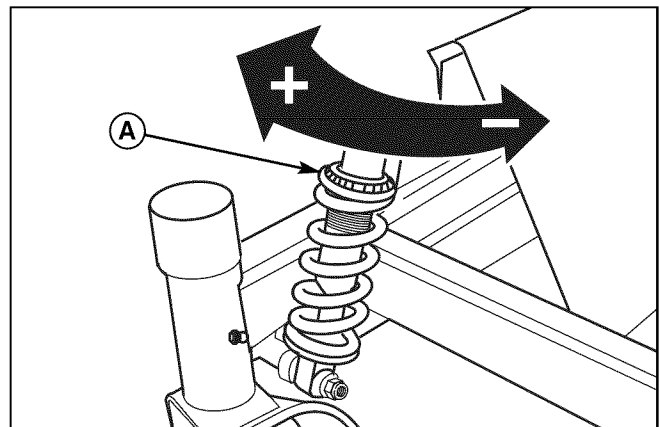

Figure 37. Suspension Adjustment
2. See Figure 37. Turn the pre-load adjustment collar (A) CLOCKWISE to increase the pre-load, turn COUNTER-CLOCKWISE to decrease the pre-load. Make sure both front shocks are set to the same amount of pre-load. Make sure both rear shocks are set to the same amount of pre-load.